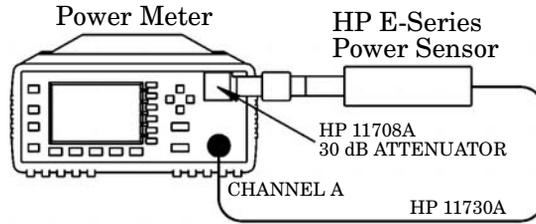

Figure 2-5: Sensor Functional Test Setup with Attenuator
- Connect the 30 dB attenuator as shown in Figure 2-5.